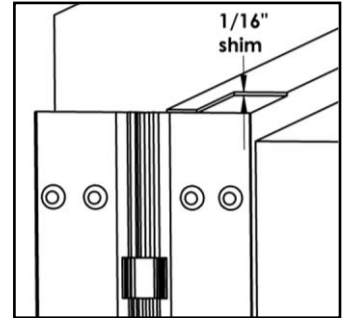

Fig. 1
#### Frame Preparation (See Fig. 1)
4. Using the transfer punch, center punch both the mounting holes and the wire access hole. See Fig. 1. The middle hole is the wire access hole.